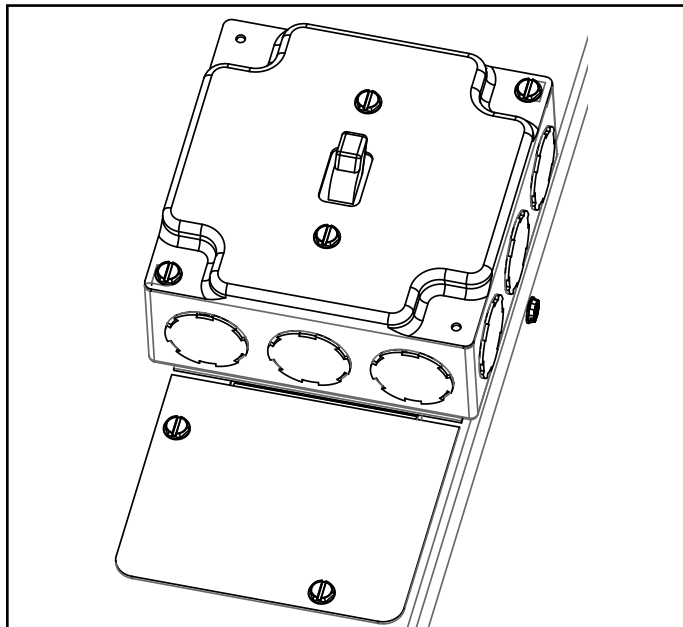

Figure 6.
4. Connect the unit wiring leads to the main power supply or the switch as desired. Securely attach the cover to the junction box. When complete, the junction box should be as shown in Figure 6.